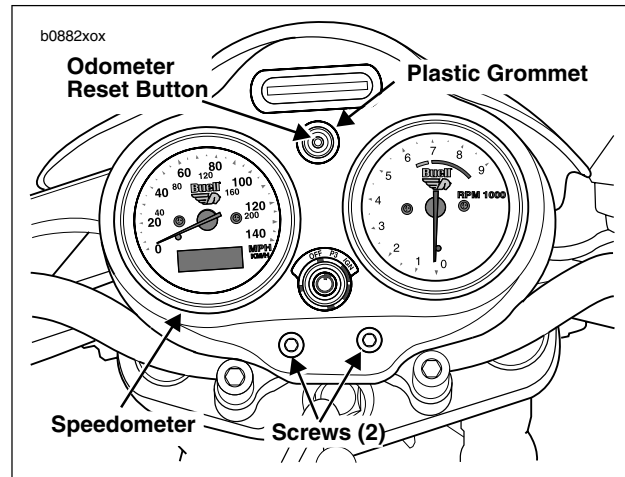
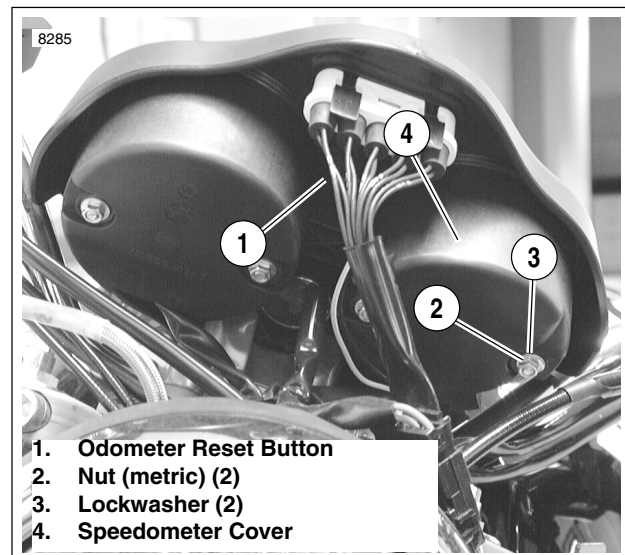

Figure 7-80. Dash Panel (Front)
Figure 7-81. Dash Panel (Back)
2. See Figure 7-80. Remove odometer reset button from dash panel.
- b. See Figure 7-81. Remove odometer reset button from back side of dash panel.
3. See Figure 7-80. Detach instrument panel by removing two screws. Pull dash panel upward, but do not damage wiring.
4. See Figure 7-81. Slide speedometer cover away from speedometer.
- b. See Figure 7-80. Secure odometer reset button (3) on front of dash panel with plastic grommet (2).
5. See Figure 7-81. Install speedometer cover (4).
- b. Apply LOCTITE THREADLOCKER 243 (blue) to both nuts (metric) (2).
- c. Fasten cover (4) to speedometer using two nuts (metric) (2) and lockwashers (3).
- a. See Figure 7-80. Position dash panel on instrument support clamp.
- b. Attach panel using two screws (1). Tighten to 7-9 ft-lbs (10-12 Nm).